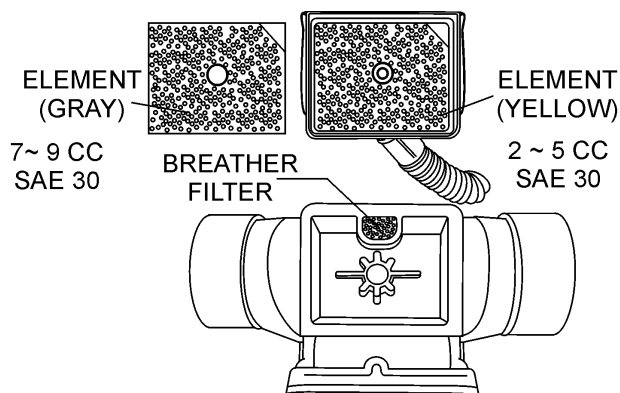

Figure 16. Primary Air Cleaner
- Remove the element from the pre-cleaner (Figure 16) at the top of the crankcase (body side) and clean it with cleaning oil (kerosene).